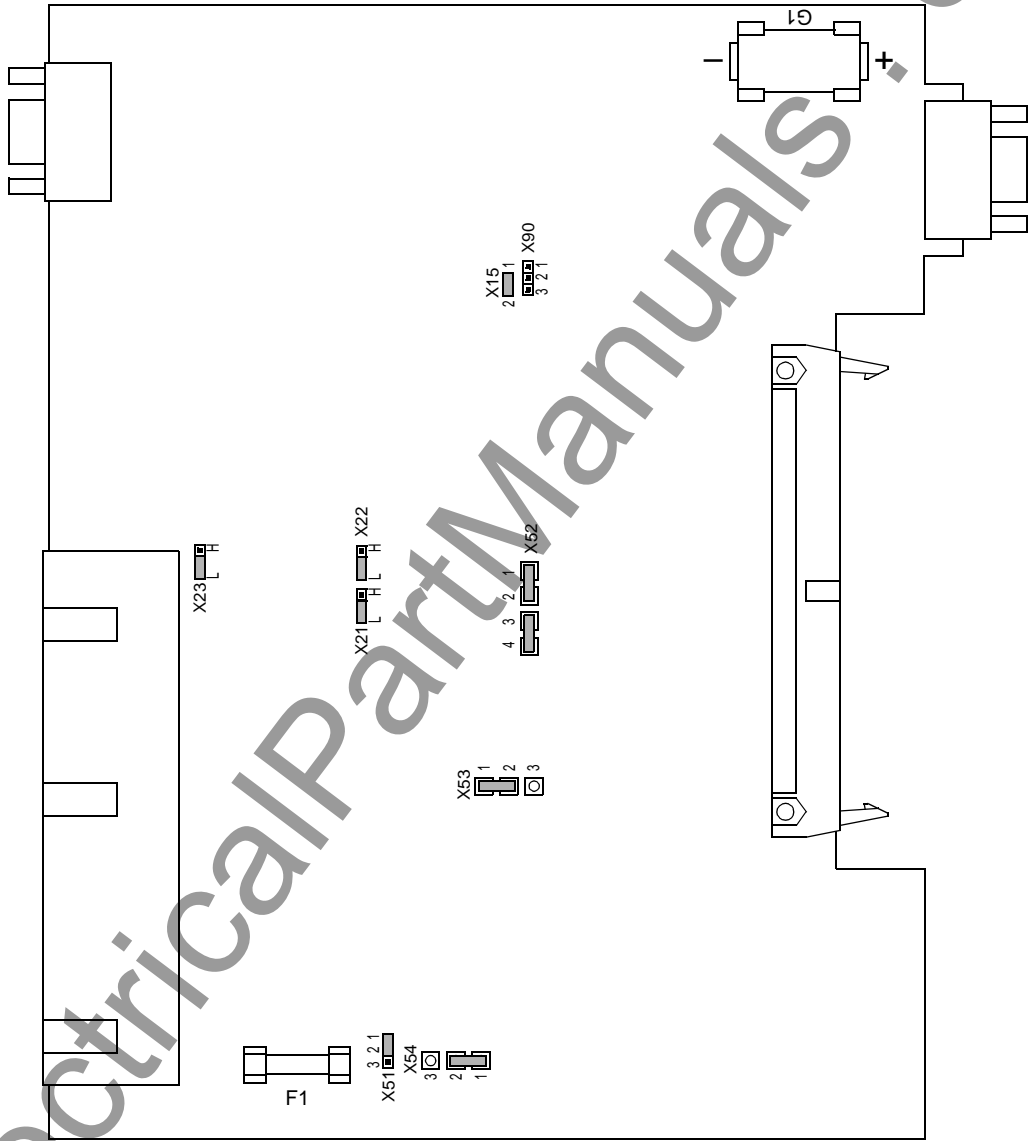

Figure 8-5 Jumpers On The CPU Board For The Power Supply And Binary Inputs BI1 To BI3 (Simplified)
- ☐ Disconnect the ribbon-cables between the CPU board (❶) and the I/O board (❷).
- ☐ Check the jumpers according to Figures 8-5 to 8-9, and Tables 8-2 to 8-6. Change or remove the jumpers as necessary.
- ❶ Processor Printed Circuit Board CPU
- ❷ Input/Output Printed Circuit Board I/O